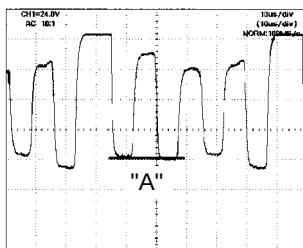

Fig. 2-3
5. Press the VOL. UP/DOWN button on the remote control until the section "A" becomes a straight line **(Refer to Fig. 2-3)**.